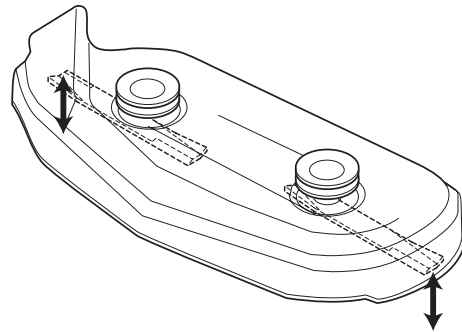

Figure 36. Orient Blades Side-to-Side
4. Set the cutting height to mid position. Arrange the mower blades so that they are pointing from side-to-side (Figure 36).